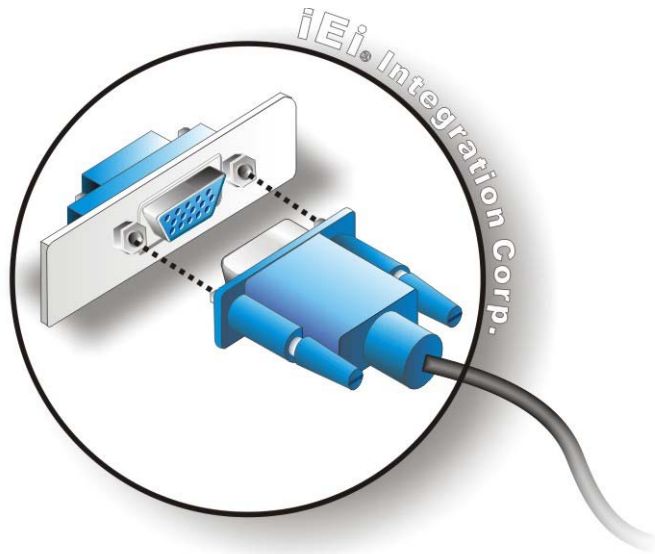

Figure 4-17: VGA Connector
Step 3: Insert the VGA connector Once the connectors are properly aligned, insert the male connector from the VGA screen into the female connector on the NANO-BT-i1. See **Figure 4-17**.